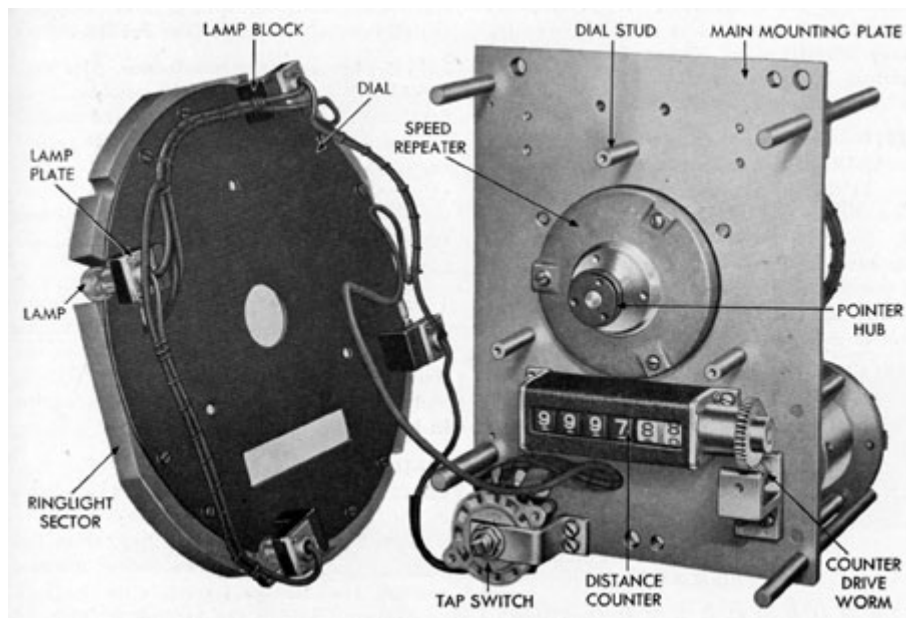

Figure 13-19. Speed and distance indicator, dial removed.
**13F2. Installing the dial and pointer.** (See Figures 13-19 and 13-17.) Place the dial assembly in position on the dial mounting studs, and secure it with the three screws and lock washers provided. Place the pointer and pointer hub cover in position on the pointer hub, and secure with the three screws and lock washers provided. The pointer may be positioned in reference to the zero mark on the dial by loosening the pointer retaining screws and shifting the pointer to the desired
**13F5. Replacing burned-out lamps.** (See Figure 13-19.) Remove the deflector assembly. (See Section 13F3.) Replace the burned out lamps with new lamps. Install the deflector assembly. (See Section 13F4.)
**13F6. Removing the ringlight sectors.** (See Figure 13-19.) Remove the dial assembly from
**13F8. Removing the lamp sockets.** (See Figure 13-19.) Remove the dial assembly. (See Section 13FL) Remove the lamps from the sockets. From the front of the dial remove the two screws that secure the lamp socket to the back of the dial. Remove the terminal screw from the ground wire. Push the center contact wire forward, unsolder the wire from the center contact, and remove the wires from
**13F7. Installing the ringlight sectors.** (See Figure 13-19.) Place one of the ringlight sectors in position on the back of the dial and secure with the two screws provided. The other sectors are installed in the same manner. Install the deflector assembly. (See Section
(See Figure 13-19.) Place the socket in the lamp block. Position the lamp plate and secure it with the two screws provided. Push the lead wire into the rear end of the socket and solder this wire to the center contact. Connect the ground wire to the lamp plate. Place
**13F10. Removing the tap switch.** (See Figure 13-19.) Remove the case cover. Remove the unit from the case. Remove
**13F13. Installing the distance counter.** (See Figure 13-19.) Place the worm gear on the countershaft and secure it with the setscrew
**13F11. Installing the tap switch.** (See Figure 13-19.) Place the new tap switch in position in the tap switch bracket, and secure with the nut and toothed lock washer provided. Solder the wires to the terminals on the tap switch. Place the tap switch assembly in position on the mounting plate and secure it with the two screws provided. Install the unit in the case. Install the case cover.
**13F12. Removing the distance counter.** (See Figure 13-19.) Remove the dial assembly. (See Section 13F1.) Remove the four screws and lock washers that secure the counter to the front of the main mounting plate, and remove the counter. The worm gear is